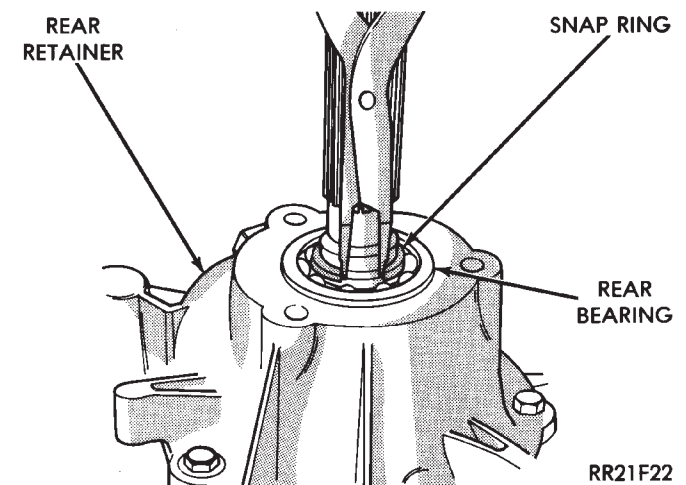

Fig. 69 Installing Output (Rear) Bearing Snap Ring
(12) Apply 3 mm (1/8 in.) wide bead of Mopar gasket maker, silicone adhesive sealer, or Loctite 518 to flange surface of rear retainer.
(13) Align and install rear retainer on rear case. Install and tighten retainer bolts to 27-34 N·m (20-25 ft. lbs.) torque.
(14) Install new output bearing snap ring (Fig. 69). Lift mainshaft slightly to seat snap ring in shaft groove if necessary.